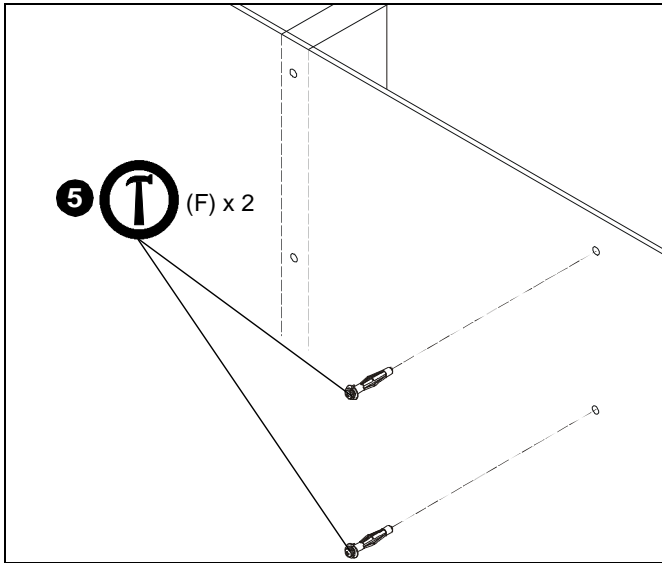
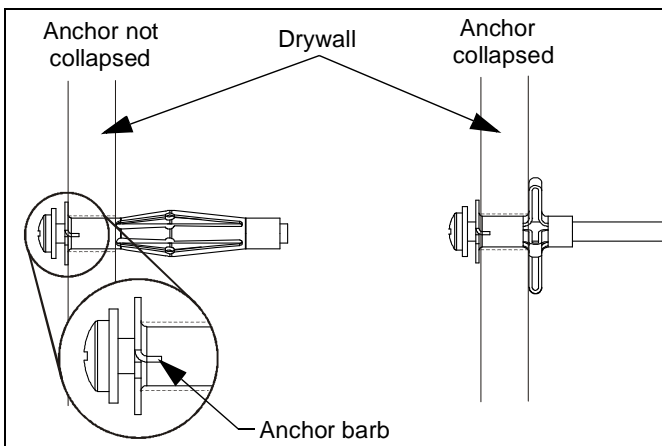

Figure 3
Figure 4
- Gently tap two anchors (F) into anchor holes. Anchor barbs should be fully engaged in drywall. (See Figure 3) and (See Figure 4)
- Using Phillips screwdriver, tighten anchor screw until anchor has fully collapsed against back side of drywall. (See Figure 4)